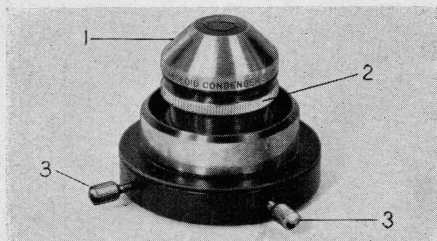
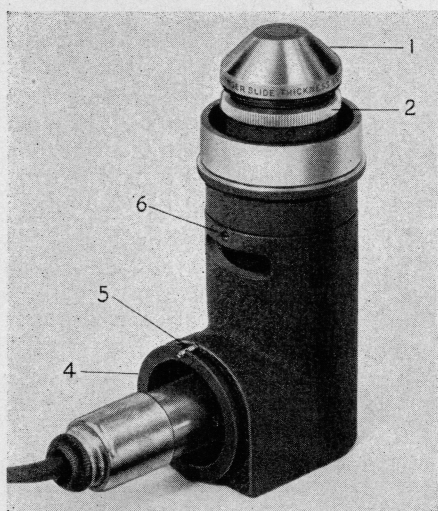
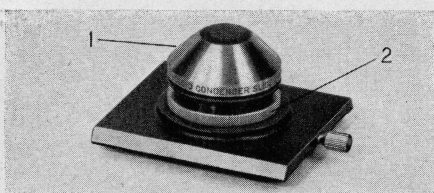

Figure 1
Figure 2
Figure 3
The Bausch & Lomb Paraboloid Condenser is supplied for use with the simple substage, either in a centering mount, Figure 1, or with a factory adjusted lamp, Figure 2; it is also supplied on a dovetail slide for attaching to the complete centering substage, Figure 3.
Make sure that the dark field condenser is adjusted flush with the microscope stage when the substage is racked to its highest position. By means of the two centering screws (3), Figure 1, or by means of two centering screws of the centering substage, in the case of the mount illustrated in Figure 3, adjust the condenser until the top of the condenser is centered
in the opening of the stage. If the stage does not have a circular opening, lower an objective to within a few millimeters of the condenser and center the condenser to the objective. In the case of the 31-58-51 Paraboloid Condenser (Figure 2) which has a factory-centered system, such centering is not required.
The No. 31-58-51 Paraboloid Condenser, Figure 2, is supplied with a lamp which uses the 31-31-39 pre-focused, pre-centered bulb, so that no adjustments are needed on the lamp
For critical dark field work where higher intensity and homogeneity are required, and for use with the 31-58-52 Paraboloid Condenser shown in Figure 3, the 6 volt 108 watt coil or rib-
For routine use with the 31-58-50 Paraboloid Condenser, Figure 1, we recommend the 31-33-43 Dark Field
Lamp, Figure 5, with either a 6 volt transformer or resistance. This lamp is similar to the one illustrated in Figure 2, and makes use of the 31-31-39 pre-focused bulb. To replace the bulb follow the directions given for the 31-58-51-51 lamp (page 3).
To attach the lamp, Figure 5, to the condenser mount, Figure 1, screw the condenser mount directly on to the thread, 7, (Figure 5). The completed assembly is illustrated in Figure 4.